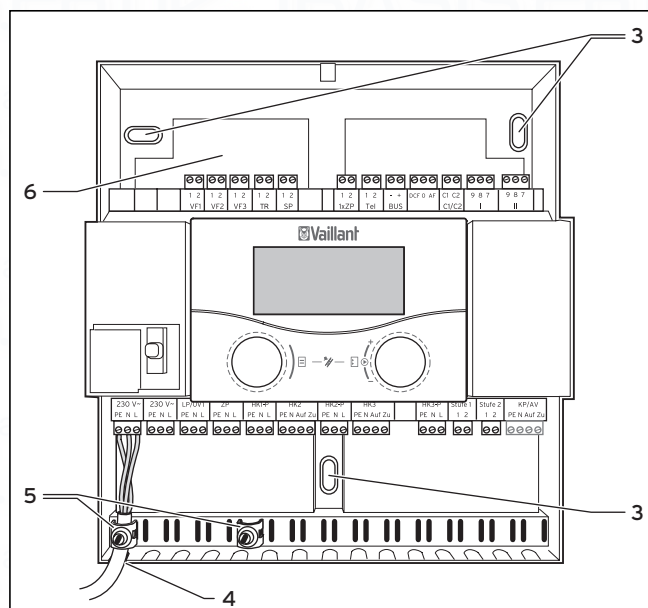
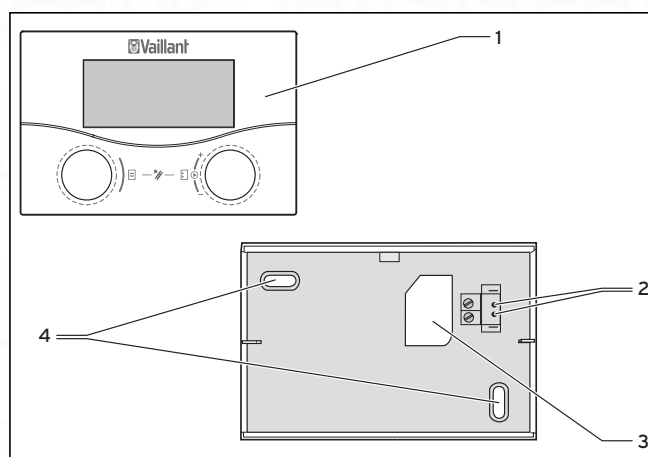

Fig. 4.3 Installation of the wall mount
Fig. 4.4 Installation as a remote control device
- Drill two 6 mm fixing holes (3) for the VR 55 mounting box (→ Fig. 4.4).
- Pass the connecting cable through the duct (3).
- Connect the connecting cable (→ Fig. 4.3).
- Place the controller on the mounting box so that the pins on the back of the top part fit into the receptacles (2).
- Push the controller (1) on to the mounting box until it engages.